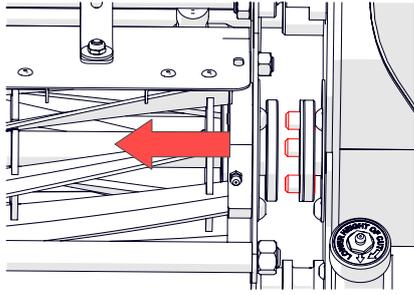

Fig.8C - Slide cassette until pins are visible.
4. Slide the cassette along the tie-bars towards the R/H side of the machine. The L/H of the cassette will be clear of the three pins of the drive coupling (~15mm) (Fig.8C).